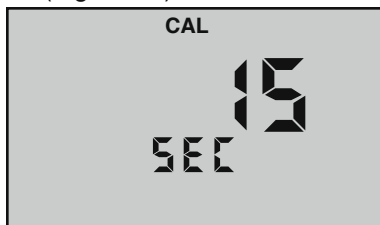

Figure 25
4. Press  to initiate. “CAL” will be displayed along with “15 SEC” or current Auto OFF value (see Figure 25).